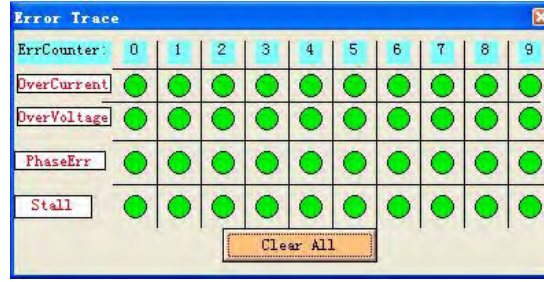

Figure 27: Error check window
- **Error Check:** This window shows both the present status of each error event and their history. Current error event(s) can be reset by clicking **Erase Current Err!** button, and all error events can be reset by clicking **Erase All!** button. List of the last ten drive faults. #0 being the most recent, #9 is the oldest. See Figure 27.